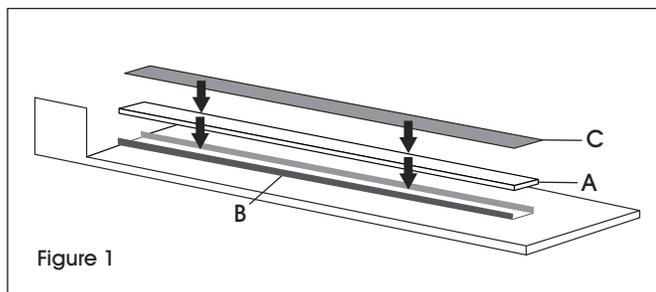

Figure 1
2. Place new silicone rubber pad (A) inside metal channel (B). (See Figure 1)
4. Apply the dark brown 10 mil Teflon Tape (C) to top of silicone rubber pad (A). (See Figure 1)